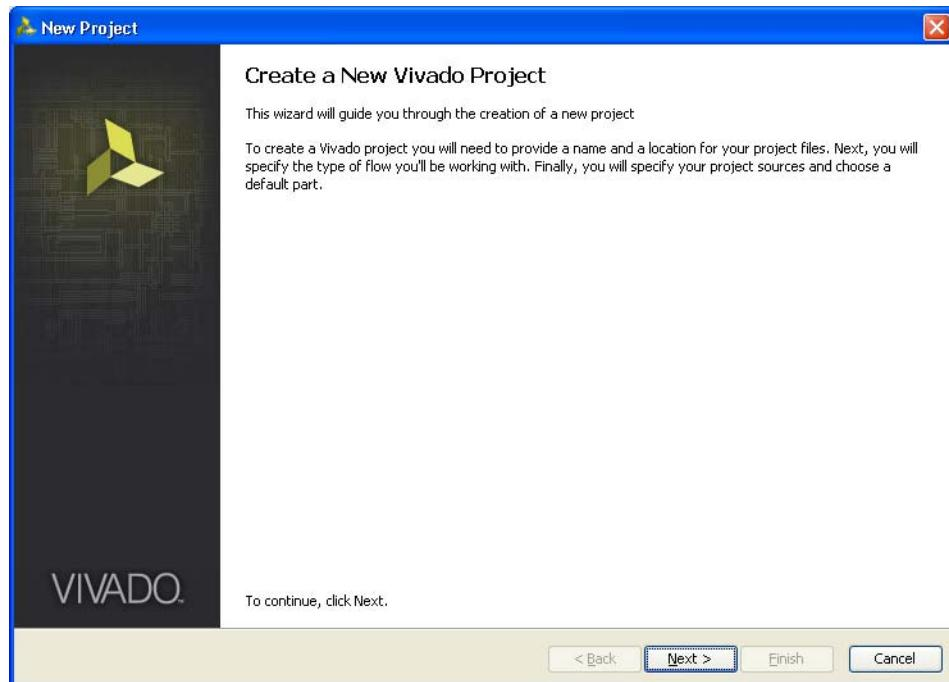

Figure 3-2: Create a New Vivado Tool Project
2. To create a new project, click the **Create New Project** option shown in Figure 3-1 to open the page as shown in Figure 3-2.